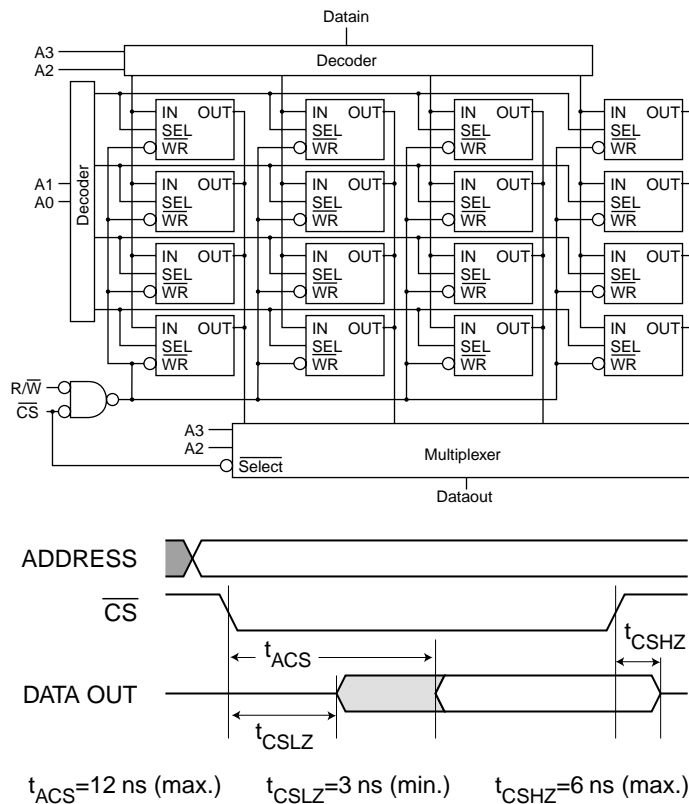

Figure Q6a
**Q6.** (a) Consider the diagrams of figure Q6a, which show the structure of a static RAM module and associated read timing. State the size of this memory (both number of words and word length).
(c) Design and sketch a 32 word memory using the modules of figure Q6a where each word is 2 bits wide. (Do not attempt to redraw the internal structure of each module, simply use an outline box for each one with the inputs and outputs shown). Describe any additional logic components used.